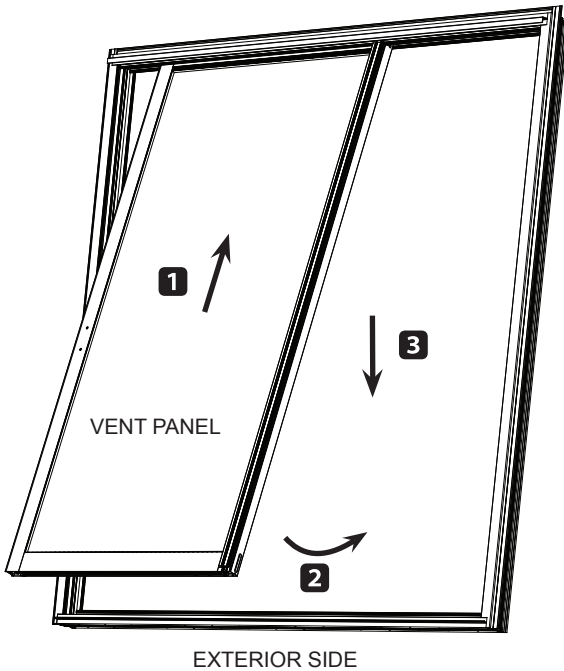

FIG. 14
2. With the rollers in their retracted position, lift and tilt the vent panel and insert it into the interior side of the head. (FIG. 14)